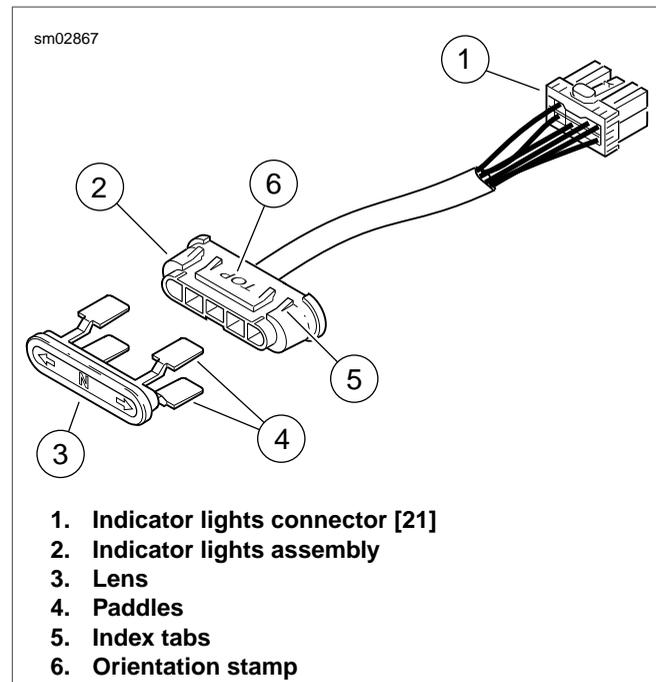

Figure 2-140. Indicator Lights Assembly
10. Install lens of indicator lights, so that bottom slot engages index tab in inner fairing. With the word "TOP" facing up, engage each paddle on lens between pair of index tabs on indicator lights assembly. Connect indicator lights connector [21], 10-place Multilock. See Figure 2-140.